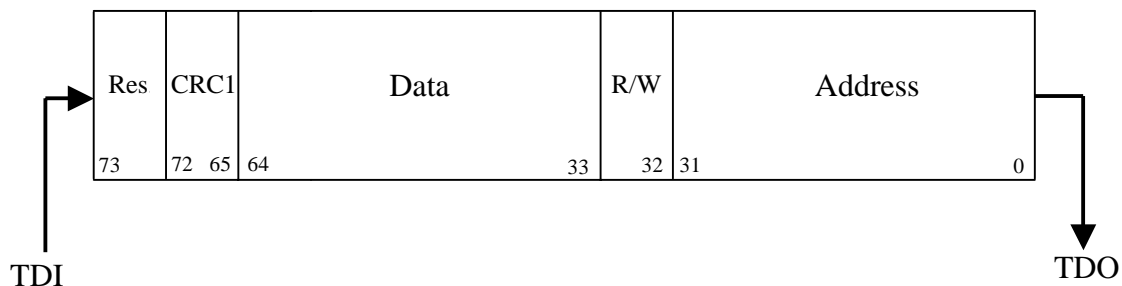

Figure 4: OpenRISC Debug Interface Scan Chain (data shifted in)
- CRC1 (Figure 4: OpenRISC Debug Interface Scan Chain (data shifted in)) is shifted in. Host calculates it from the address, R/W bit and data that are send in.